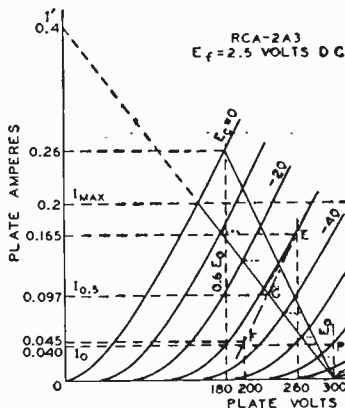
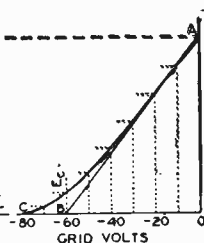

Fig. 24
Fig. 25
In class AB1 push-pull amplifier service using triodes, the operating conditions may be determined graphically by means of the plate family if  $E_o$ , the desired operating plate voltage, is given. In this service, the dynamic load line does not pass through the operating point P as in the case of the single-tube amplifier, but through the point D in Fig. 24. Its position is not affected by the operating grid bias provided the plate-to-plate load resistance remains constant. Under these conditions, grid bias has only a small effect on the power output. Grid bias cannot be neglected, however, since it is used to find the zero-signal plate current and, from it, the zero-signal plate dissipation. Since the grid bias is higher in class AB1 than in class A service for the same plate voltage, this "overbiased" condition permits the use of a higher signal voltage without grid current being drawn and, therefore, higher power output is obtained than in class A service.
In general, for any load line through point D, Fig. 24, the plate-to-plate load resistance in ohms of a push-pull amplifier is  $R_{pp} = 4E_o/I'$ , where  $I'$  is the plate current value in amperes at which the load line as projected intersects the plate current axis and  $E_o$  is in volts. This is another form of the formula, given under push-pull class A amplifiers,  $R_{pp} = 4(E_o - 0.6E_o)/I_{max}$ , but is more general. Power output =  $(I_{max}/\sqrt{2})^2 \times R_{pp}/4$ , where  $I_{max}$  is the peak plate current at zero grid volts for the load chosen. This formula simplified is  $(I_{max})^2 \times R_{pp}/8$ . The maximum-signal average plate current is  $2I_{max}/\pi$  or  $0.636 I_{max}$ ; the maximum-signal average power input is  $0.636 I_{max} E_o$ .
**Example:** Fig. 24 illustrates the application of the method to a pair of 2A3's operated at  $E_o = 300$  volts. The tubes have a plate-dissipation rating each of 15 watts. The method is to erect a vertical line at  $0.6E_o$ , or at 180 volts, which intersects the  $E_c = 0$  curve at the point  $I_{\max} = 0.26$  ampere. Using the simplified formulas, we obtain
The operating bias and the zero-signal plate current may now be found by use of a curve which is derived from the plate family and the load line. Fig. 25 is a curve of instantaneous values of plate current and dc grid-bias voltages taken from Fig. 24. Values of grid bias are read from each of the grid-bias curves of Fig. 24 along the load line and are transferred to Fig. 25 to produce the curved line from A to C. A tangent to this curve, starting at A, is drawn to intersect the grid-voltage abscissa. The point of intersection, B, is the operating grid bias for fixed-bias operation. In the example, the bias is -60 volts. Refer back to the plate family at the operating conditions of plate volts = 300 and grid bias = -60 volts; the zero-signal plate current per tube is seen to be 0.04 ampere. This procedure locates the operating point for each tube at P. The plate current must be doubled, of course, to obtain the zero-signal plate current for both tubes. Under maximum-signal conditions, the signal voltage swings from zero-signal bias voltage to zero bias for each tube on alternate half cycles. Hence, in the example, the peak of signal voltage per tube is 60 volts, or the grid-to-grid value is 120 volts.
As in the case of the push-pull class A amplifier, the second-harmonic distortion in a class AB1 amplifier using triodes is very small and is largely cancelled by virtue of the push-pull connection. Third-harmonic distortion, however, which may be larger than permissible, can be found by means of composite characteristic curves. A complete family of curves can be plotted, but for the present purpose only the one corresponding to a grid bias of one-half the peak grid-voltage swing is needed. In the example, the peak grid voltage per tube is 60 volts, and the half value is 30 volts. The composite curve, since it is nearly a straight line, can be constructed with only two points (see Fig. 24). These two points are obtained from deviations above and below the operating grid and plate voltages. In order to find the curve for a bias of -30 volts, we have assumed a deviation of 30 volts from the operating grid voltage of -60 volts. Next assume a deviation from the operating plate voltage of, say, 40 volts. Then at  $300 - 40 = 260$  volts, erect a vertical line to intersect the  $(-60) - (-30) = -30$ -volt bias curve and read the plate current at this intersection which is 0.167 ampere; likewise, at the intersection of a vertical line at  $300 + 40 = 340$  volts and the  $(-60) + (-30) = -90$ -volt bias curve, read the plate current. In this example, the plate current is estimated to be 0.002 ampere. The difference of 0.165 ampere between these two currents determines the point E on the  $300 - 40 = 260$ -volt vertical. Similarly, another point F on the same composite curve is found by assuming the same grid-bias deviation but a larger plate-voltage deviation, say, 100 volts. We now have points at 260 volts and 0.165 ampere (E), and at 200 volts and 0.045 ampere (F). A straight line through these points is the composite curve for a bias of -30 volts, shown as a long-short dash line in Fig. 24. At the intersection of the composite curve and the load line, G, the instantaneous composite plate current at the point of one-half the peak signal swing is determined. This current value, designated  $I_{0.5}$  and the peak plate current,  $I_{max}$ , are used in the following formula to find peak value of the third-harmonic component of the plate current.